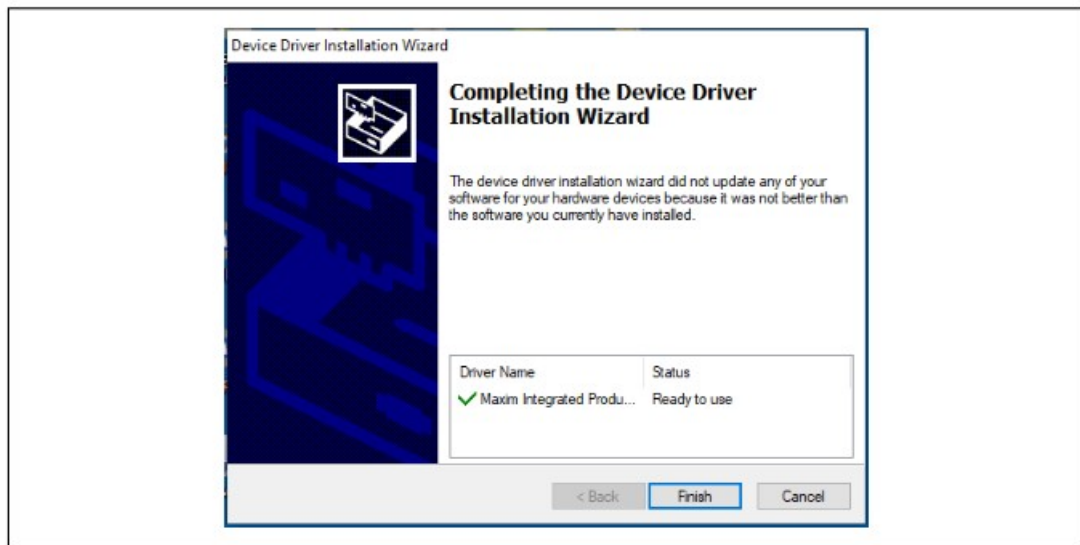

Figure 4. Finish DS9481P-300# Drivers Installation
5. On the Completing the Device Driver Installation Wizard screen, click Finish to complete the installation of the EV kit software and required drivers (Figure4).